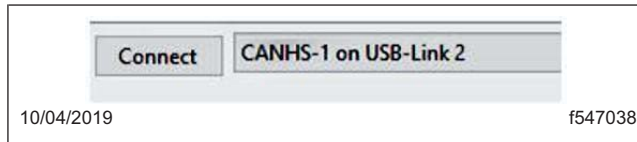
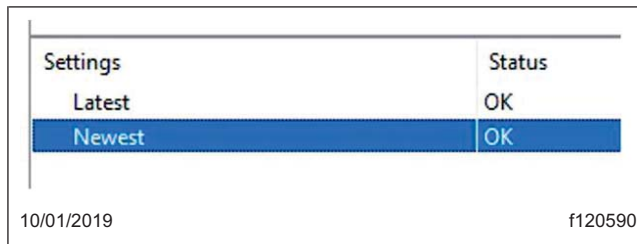

Fig. 5, Connect Button
Fig. 6, Selecting the Newest Software Version
14. Click "BHM," then click "Connect" and select "Newest." See Fig. 5. If "Newest" is not available, it is possible that the current BHM software is not 7.41. Go to the "Identification" tab and check the software version. See Fig. 6.